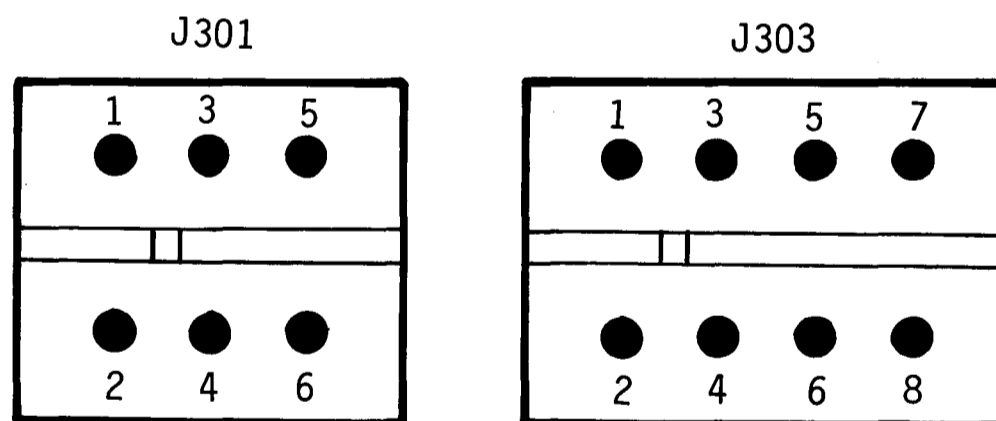

Figure 2-10. Disc Drive Power Supply Connector Pin Designations
3. Remove connectors P301 and P303 from the Disc Drive Power Supply (see Figure 2-10).
5. Using a multimeter, verify the dc voltages at the Disc Drive supply connector pins listed in Table 2-6. The pin number designations on J301 and J303 are shown in Figure 2-10.